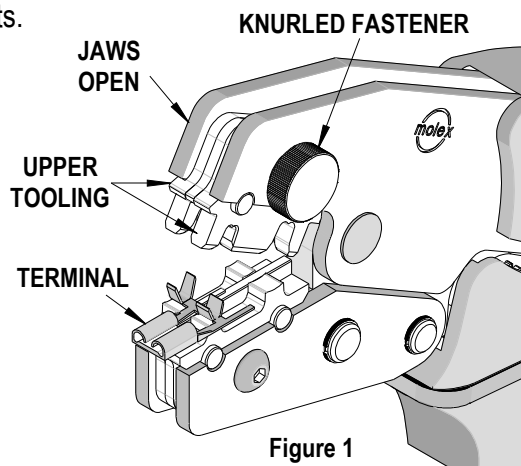

Figure 1
2. Before attempting to crimp any terminals, make sure all the upper tooling is correctly placed into the upper jaw. The desired nest being used for the proper wire size should be in the forward position, (The marking on the upper tooling "A" for 1.0mm² or "B" for 18 AWG and 0.8mm²). This is done by removing the knurled fastener that holds the upper tooling in place and then rotating it 180° to the correct position. Then, re-installing the fastener. See Figure 1.